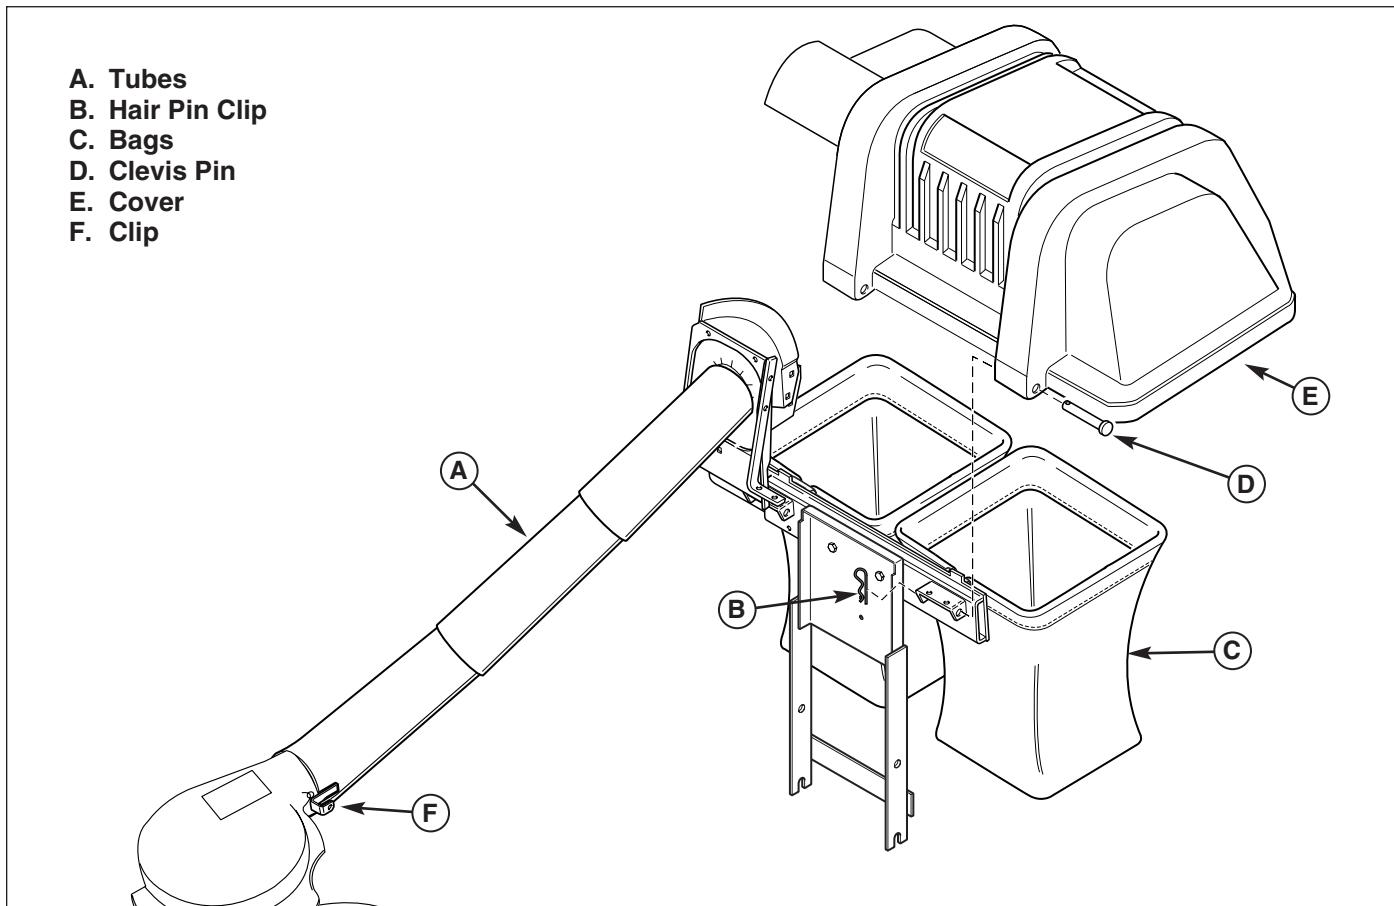

Figure 12. Normal Removal & Installation
2. Install the bags (C, Figure 12).
3. Install the cover (E, Figure 12). Secure with the clevis pins (F) and hair pin clips (B).
5. Insert the tubes (A, Figure 12) into the catcher and connect to the turbo. Be sure the clip (F) is secured over the top of the turbo flange nut.